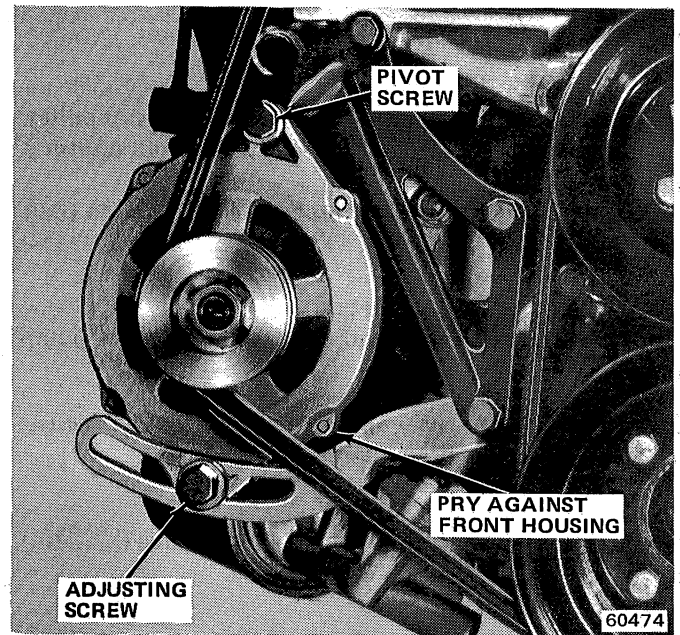

**Fig. 1C-18 Four-Cylinder Engine Power Steering Pump Drive Belt Adjustment**
- (1) Position Tension Gauge J-23600 or J-29550 on upper section of belt midway between alternator pulley and fan pulley. Test belt tension according to manufacturer's instructions.
- (2) Adjust belt tension to specification if less than 90 pounds-force (400 N).
- (3) Adjustment (figs. 1C-19 and 1C-20).